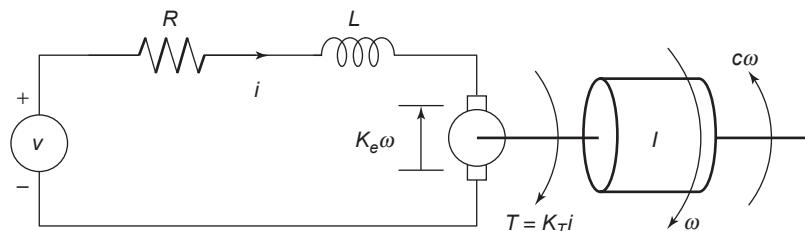

Figure P13
- The equations for the armature-controlled dc motor shown in Figure P13 follow. The motor's current is i , and its rotational velocity is ω .